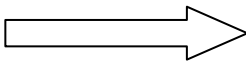

Figure 14: measuring mode
- set all the DIP switch positions to 0 as indicated in Fig.14 on the left; start from position 1 and move towards position 8!